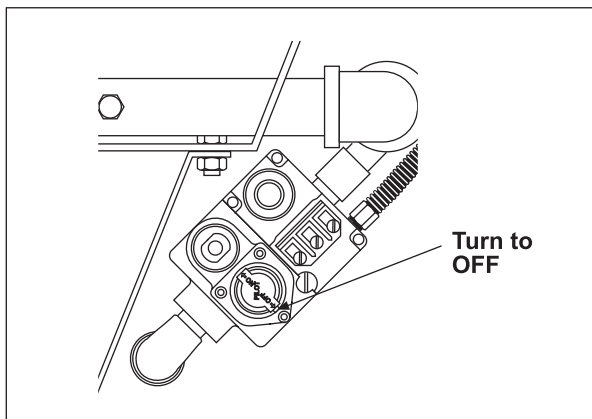

Figure 23
1. Turn the gas control valve knob to OFF (Figure 23).